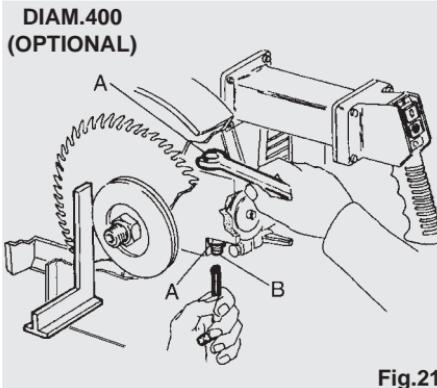

Fig.21
- Check, with a square, that the blade is perfectly perpendicular to the plane (see fig. 21). If not, turn the nut (A) with an open mouth key of 13 and the dowel (B) with a socket head screw. Loosen the upper dowel, tighten the lower one or viceversa, once you have set the perpendicularity, working becomes dangerous and this should be absolutely avoided.